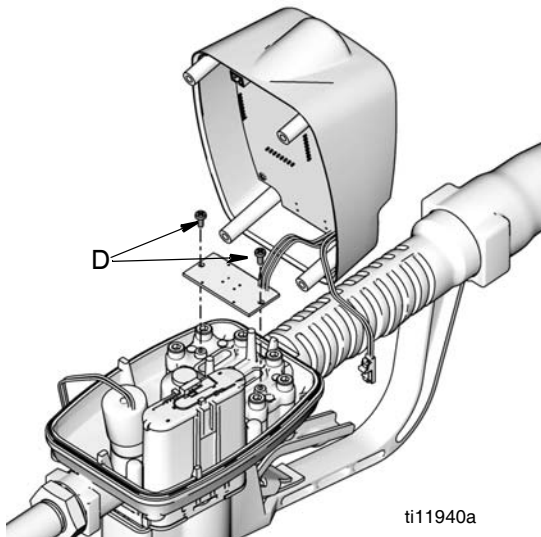

FIG. 34
- Remove two screws (D) holding reed switch board to the cover plate (FIG. 34). Keep these screws for reassembly. Remove cover assembly.